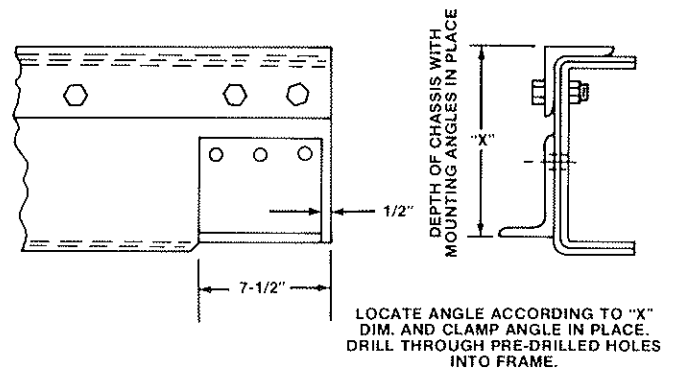

FIG. 5.7
3. Securely clamp one tailgate support angle (6" x 4" x 1/2") on the outside of each truck frame rail so that the horizontal leg of each angle is at "X" dimension from top of body mounting angle (Fig. 5.7)